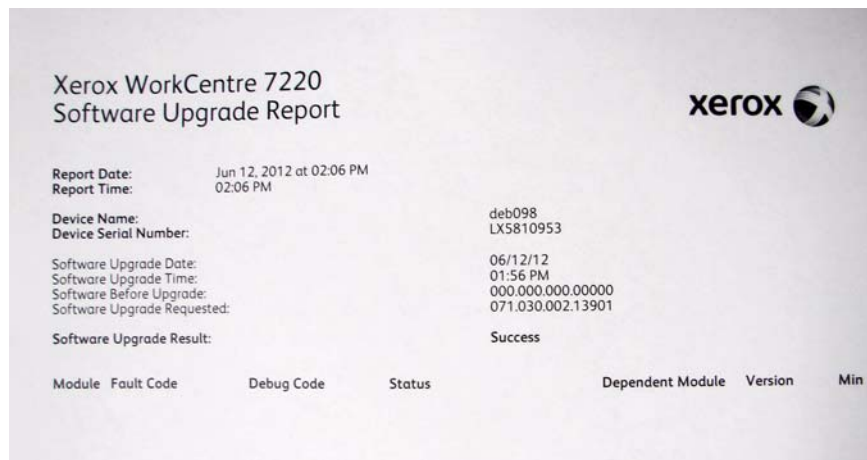

Figure 1 Software Upgrade Report
12. After the software has upgraded a software upgrade report prints, Figure 1.